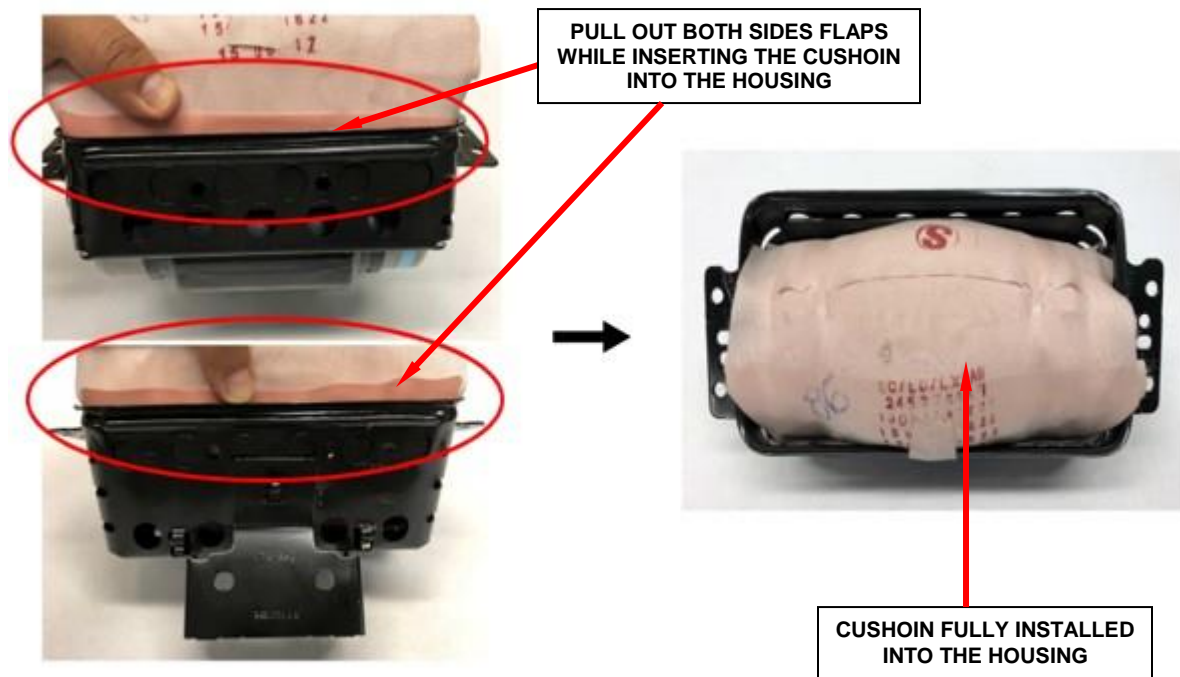

Figure 26 – Side Flaps Must Be Held Out
k. Insert the cushion, pulling out both side flaps (Figure 26).